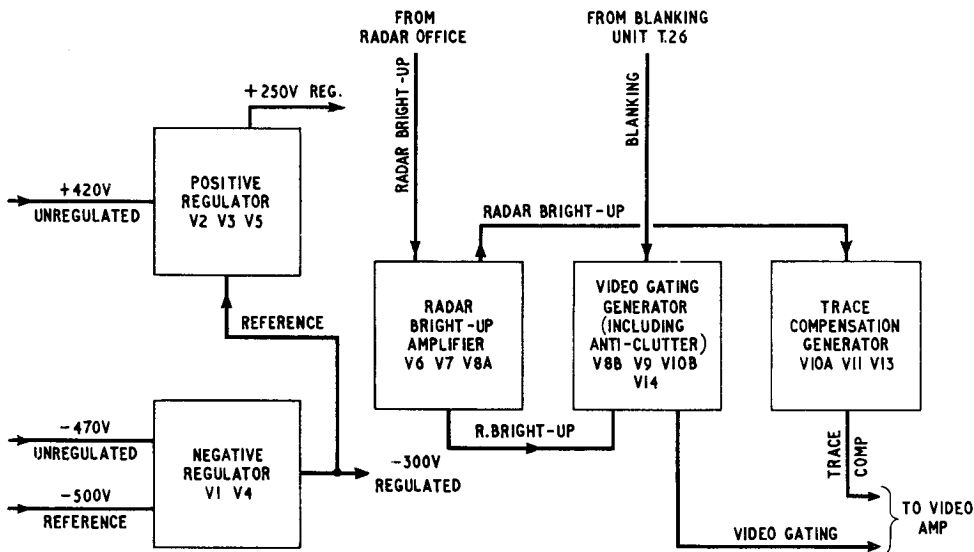

Fig. 3. Waveform generator Type 80—block diagram
6. A complete circuit diagram of the waveform generator Type 80 is given in fig. 11; a simplified block diagram is given in fig. 3. The unit may be considered as falling into five main groups; these groups are described in the following paragraphs with the inclusion of simplified circuits of each group.